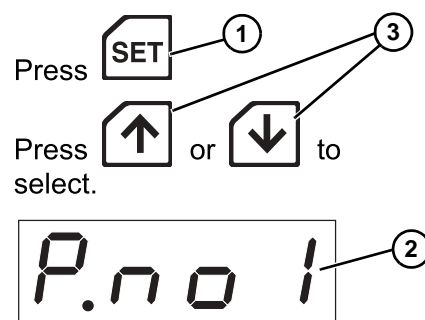
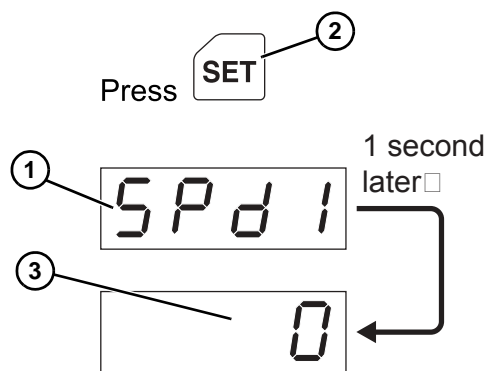

Figure 25
Figure 26
2. Press SET (Figure 25, item 1). “P. no1” (Figure 25, item 2) will be displayed.
3. Press SET (Figure 25, item 1). Press up or down (Figure 25, item 3) until “SPd1” (Figure 26, item 1) is displayed. Press set (Figure 26, item 2) again. “SPd1” (Figure 26, item 1) will blink and correct speed (Figure 26, item 3) will be displayed.